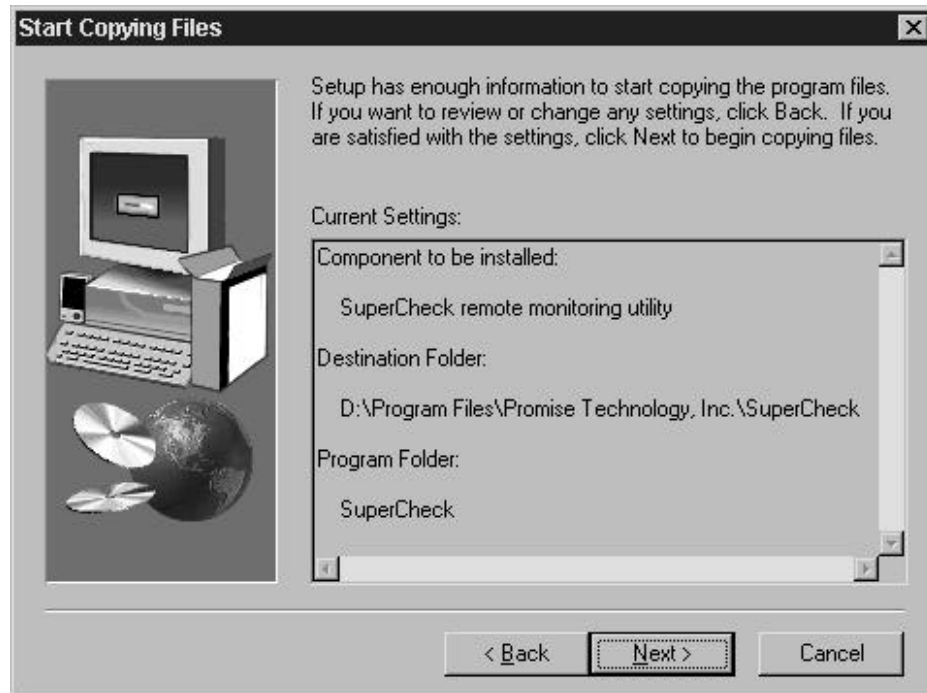

Figure 21: "Start Copying Files" window
- 9) The "Start Copying Files" window will then be displayed (see Figure 21 below). Verify that the proper component(s), destination folder, and program folder you selected for installation are correct, then click on "Next" to proceed. If otherwise, click the "Back" button to go back and make changes.